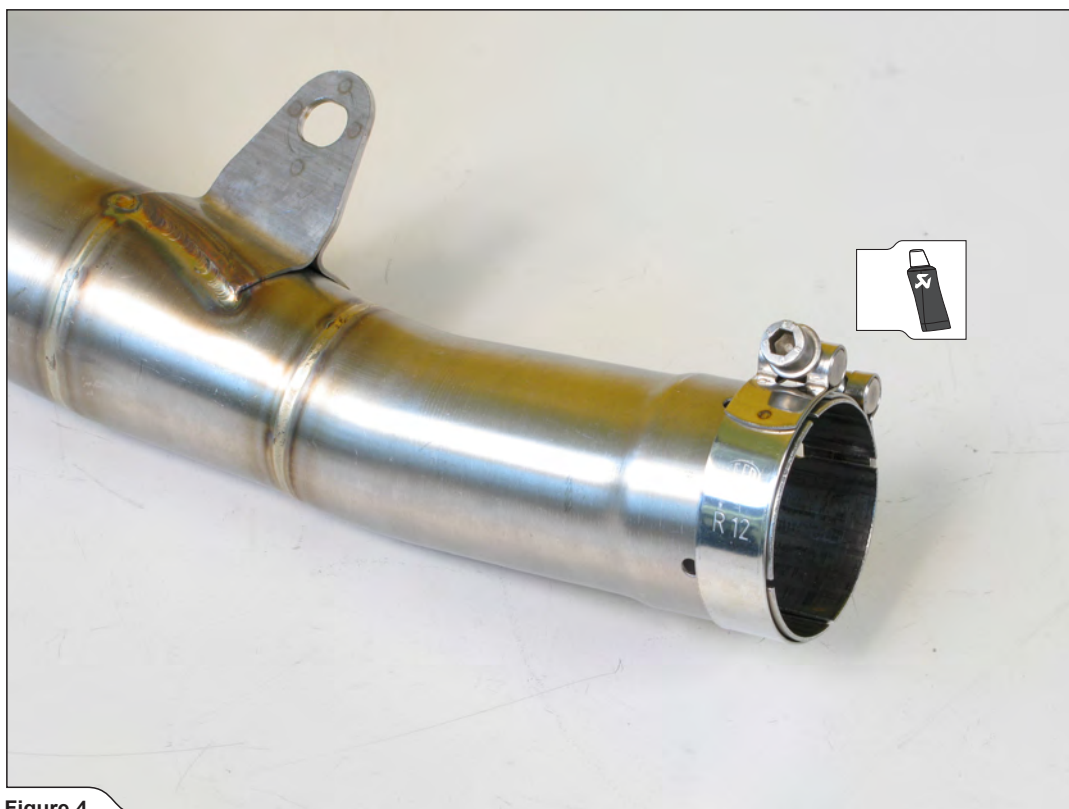

Figure 4
1. Assemble the clamp from Akrapovič installation kit onto the muffler's inlet pipe, as shown (**Figure 4**).